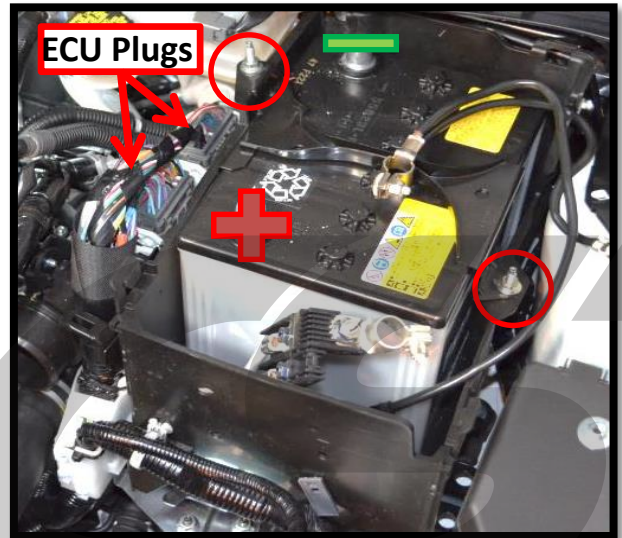
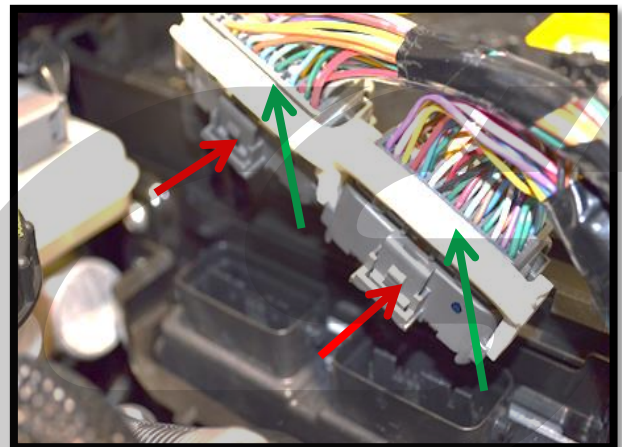

Figure 2b
Figure 2d
- b) **Disconnect the battery.** Disconnect the battery terminals with a 10mm end wrench. Refer to **Figure 2b** for negative (-) and positive terminals (+). Disconnect the negative terminal of the battery first, then the positive terminal (**Figure 2b**).
- c) **Remove the two 10mm nuts for the battery tie down bracket** (shown with **red circles** in **Figure 2b**).
- f) **Disconnect the ECU plugs** by pushing on the tabs (**red arrows** in **Figure 2d**) and pulling the white lock upward simultaneously (**green arrows** in **Figure 2d**). Refer to **Figure 2b** for location of ECU plugs and **Figure 2d** for close ups.